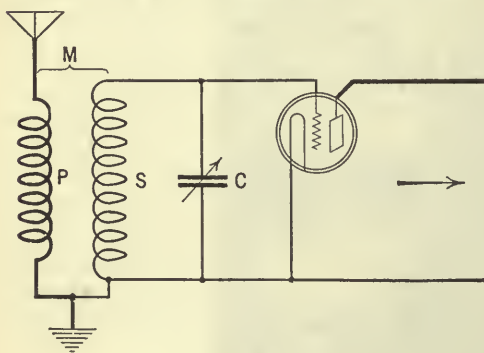

FIG. 1
**B**EGINNING with the amplifier, then, let us see what it consists of and where we might find a point of attack. Fig. 1 shows the conventional arrangement of coils, condenser, and tube. Evidently there are four variable factors:
The radio-frequency transformer. Here again are four variables. Instead of an antenna coil as in Fig. 1 three is a plate coil which serves the same purpose—that of transferring the voltage from one part of the circuit to another. The coupling, *M*, must be close if the longer wavelength stations are to be heard